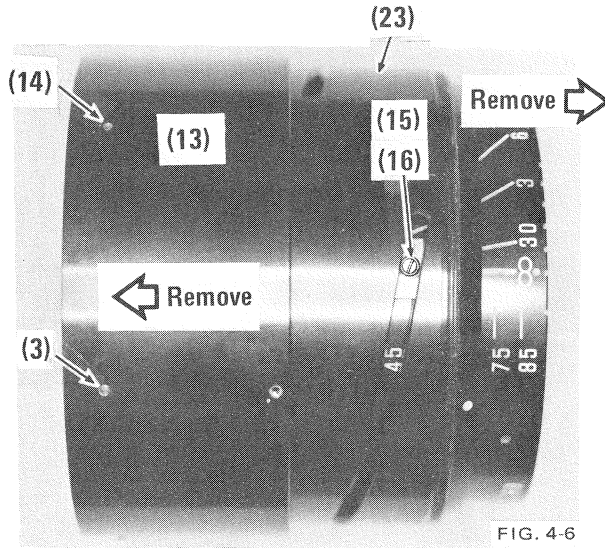

FIG. 4-6
d) Hold rear of lens in left hand, rotate control ring (20) clockwise until it stops. Back rotate slightly, and with a quick forward snap-of-the-wrist, spin control ring off cam ring, and remove towards rear of lens.
- e) Remove six setscrews (14), that attach inner focusing ring (13) to the lens. Slide focusing ring off front of lens. Fig. 4-6.
- f) Remove bridge ring roller shaft (27) and bridge ring roller (26) from each side of lens. Slide cam ring (23) off to rear of lens. Fig. 4-6.